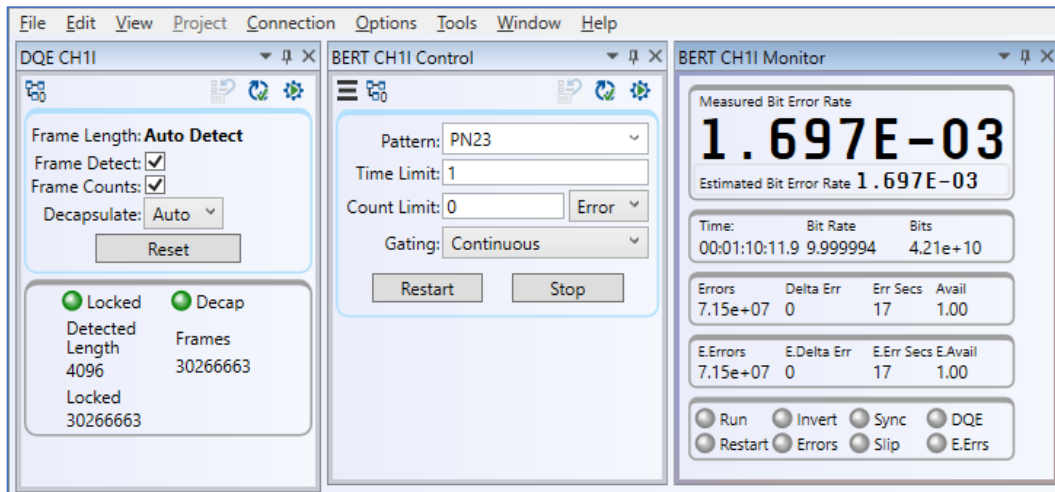

Figure 219: Examples of BERT Related Panels
The RA has eight (8) clock and data inputs. The RA provides real-time status for all modules, including the following functions and indicators, as shown in Figure 219.